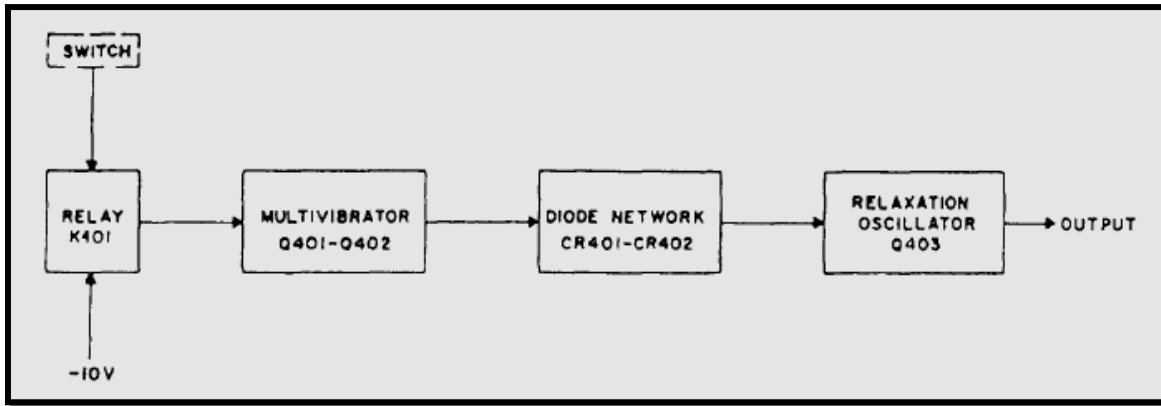

Figure 7-15.— Block diagram of the unassigned A alarm module.
**UNASSIGNED A ALARM.**— The unassigned A alarm contains transistorized oscillator and timer circuits that generate 500-Hz and 1500-Hz sine waves alternating at a rate of 1 1/2 Hz, producing a jump tone. Figure 7-15 is a block diagram of an unassigned A alarm module. Operation of the unassigned A alarm contact maker supplies -10 volts dc through relay K401 to all stages of the circuit.